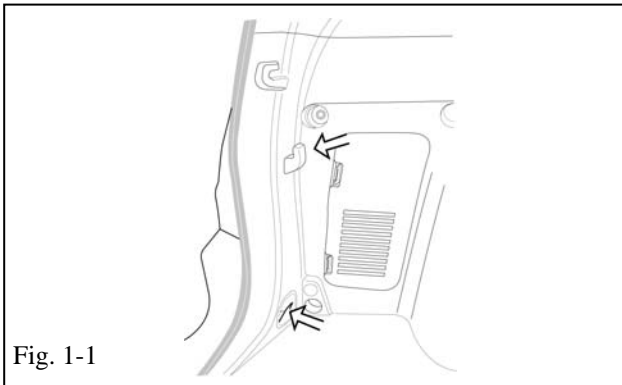

Fig. 1-1
- (a) Open hatch, locate anchor locations on the driver's side of the vehicle (Fig 1-1.)